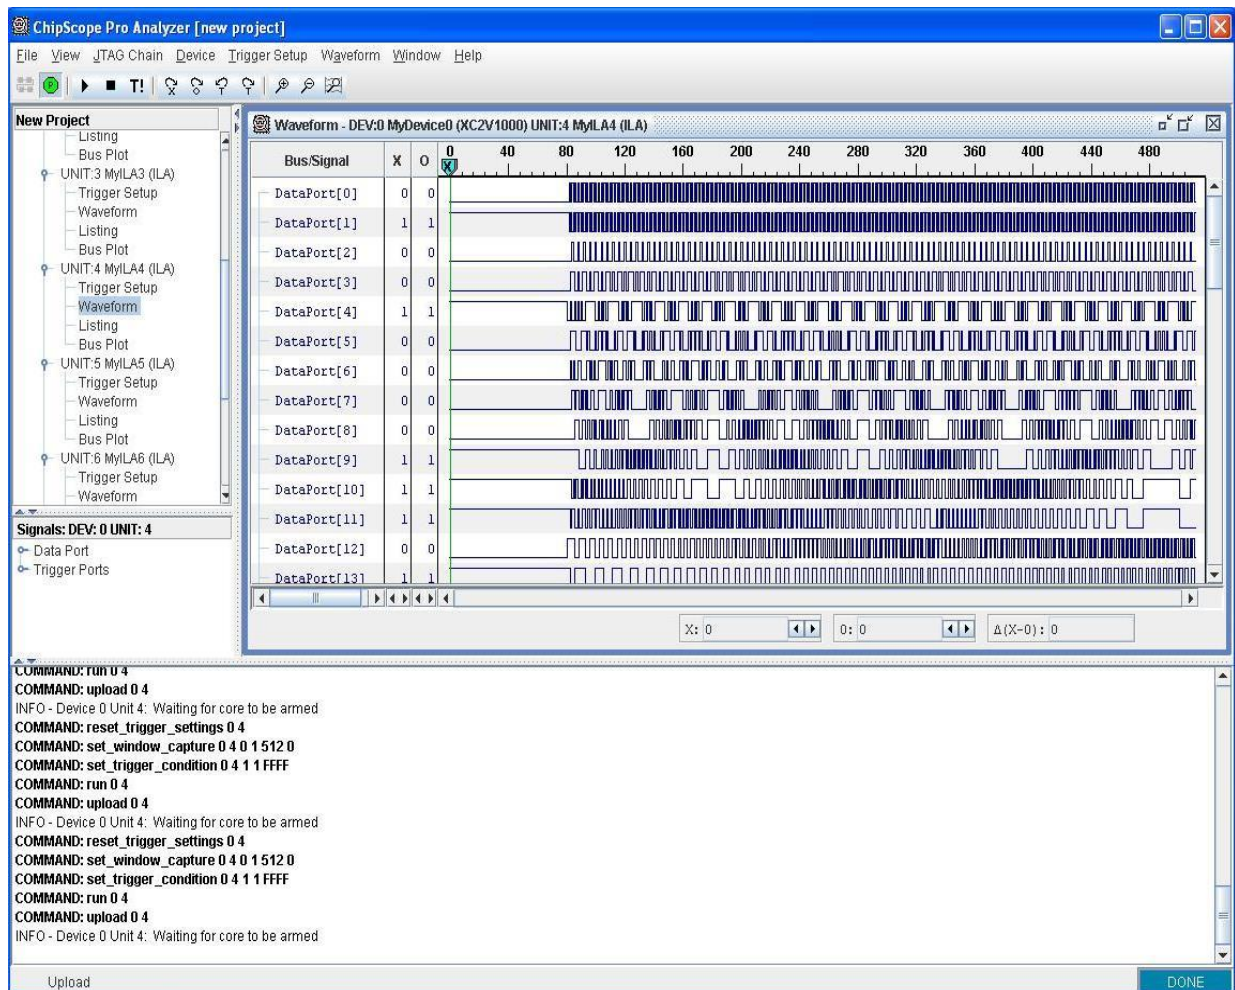

Fig 4.9: Triggered Waveforms
5. The waveforms in the Fig 4.9 can be obtained by clicking on **T!** icon. There are **X** and **O** markers used to accurate the calculations.